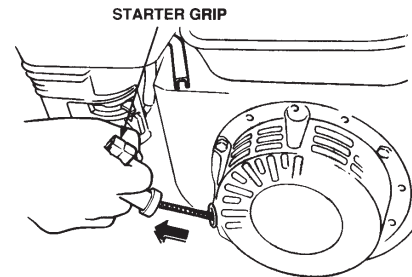

Figure 19. Starter Grip
- Grasp the starter grip (Figure 19) and slowly pull it out. The resistance becomes the hardest at a certain position, corresponding to the compression point. Pull the starter grip briskly and smoothly for starting.